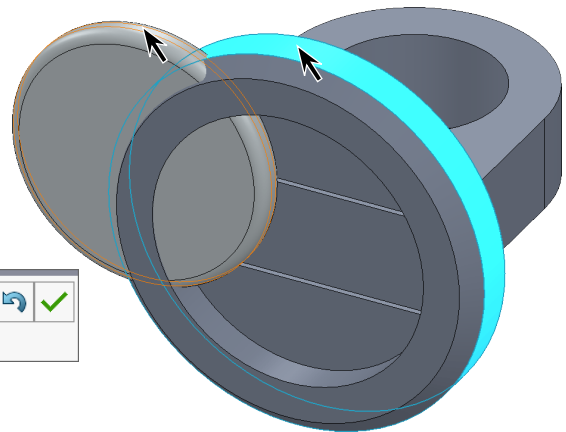

Fig. 14
Step 3. Click **cylindrical face of Socket** and **cylindrical face of Magnet**, **Fig. 14**.